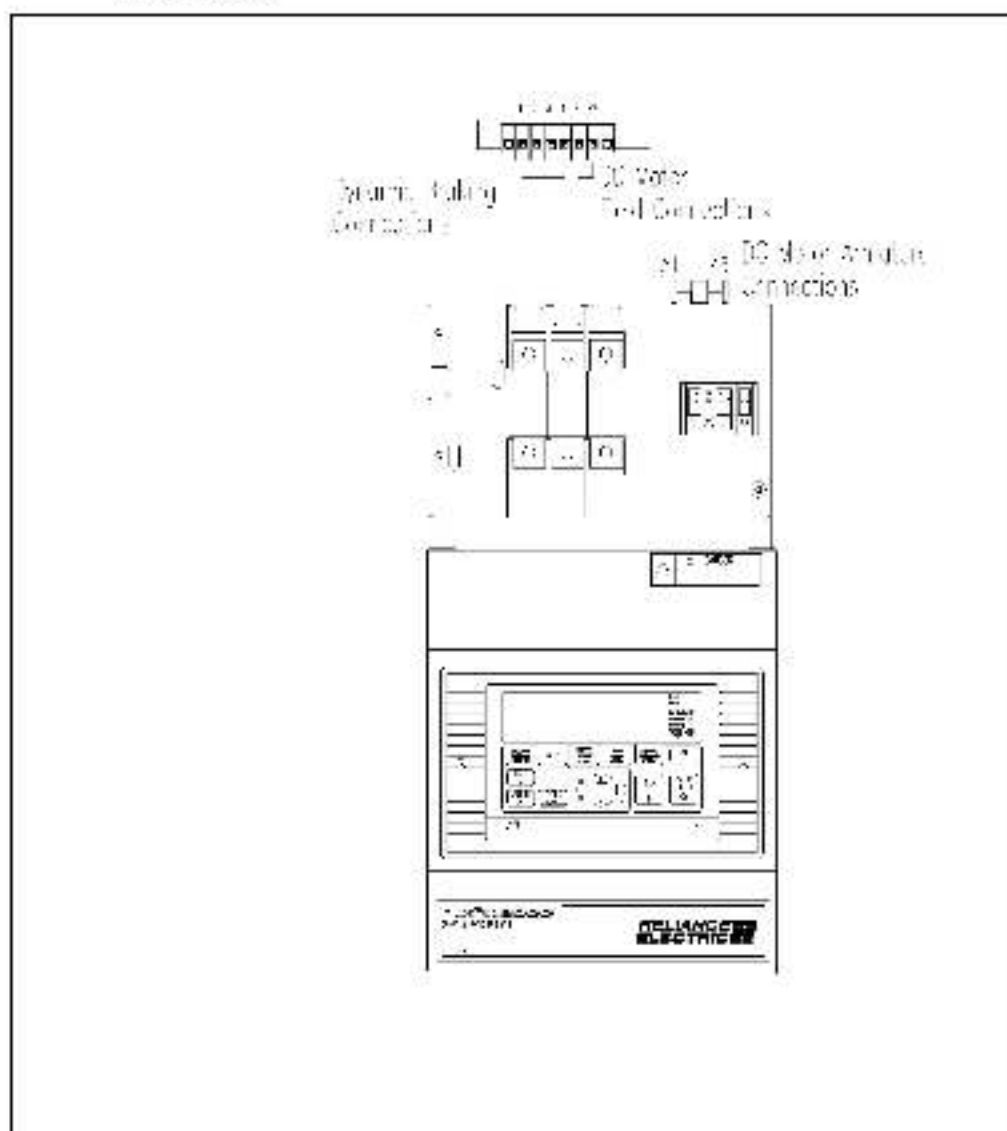

Figure 2.18 — DC Drive Motor Field and Armature Connection Locations
- Step 3. **(Integrator drives only)** Connect the line fuses (1FU, 2FU, 3FU), field fuses (6FU, 7FU, 8FU), and the FN contactor to the drive as shown in figure 2.18. Note that the line and field fuses must be wired as shown in figure 2.18 to ensure proper phase relationships.
- Step 2. Locate the DC motor armature and field supply leads on the drive. Refer to figure 2.18 to 2.21.